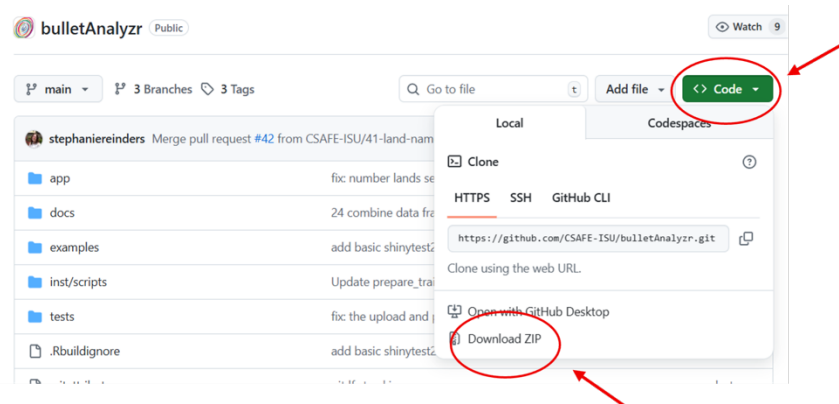

Figure 4. Click Code and then Download ZIP on the BulletAnalyzr GitHub page to download BulletAnalyzr.
- Click the green Code button and select Download Zip. (Figure 4)